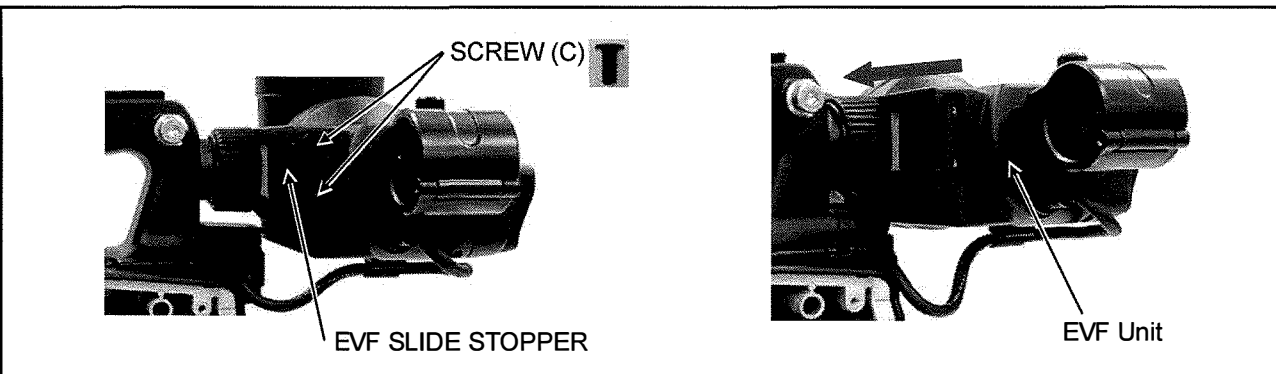

Figure 10-2
5. Unscrew the 2 screws (C) as shown in figure 10-2 and remove the EVF SLIDE STOPPER.
6. Slide the EVF Unit in the direction of arrow as shown in figure 10-2 and remove the EVF Unit from SLIDER.